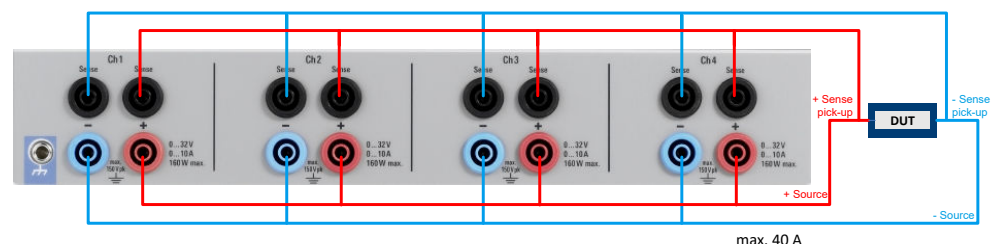

Figure 5-3: Example of a parallel connection
2. As shown in Figure 5-3, connect the [+] output connectors of all channels.
5. Similarly to the source lines, connect the sense lines to each channel in parallel, as shown in Figure 5-3.